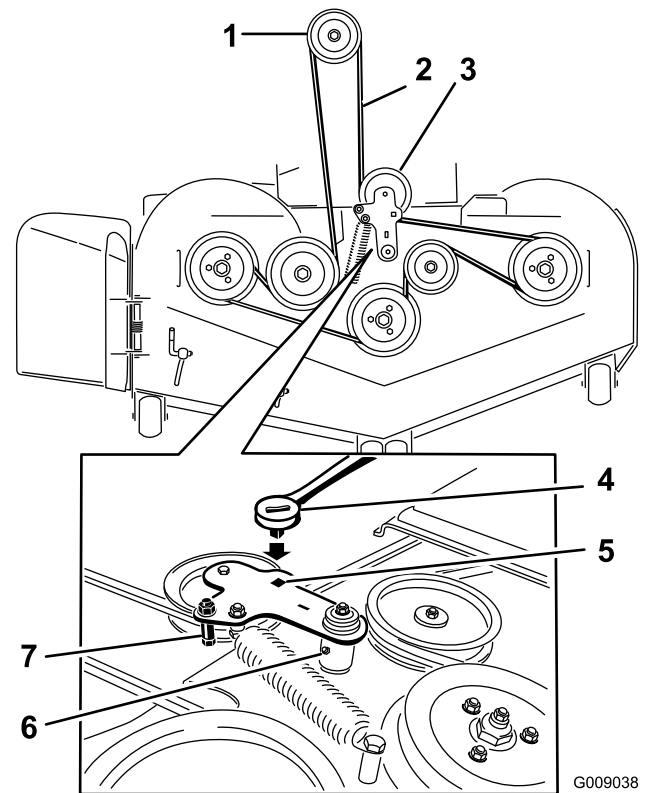

Figure 78
10. Install the belt guide on the idler arm shown in Figure 78.
11. Using the ratchet in the square hole, install the idler spring (Figure 78).
5. Use a ratchet in the square hole in the idler arm to remove tension on the idler spring (Figure 78).
7. Remove the belt guide on the spring loaded idler arm shown in Figure 78.
9. Install the new belt around the mower pulleys and the clutch pulley under the engine (Figure 78).